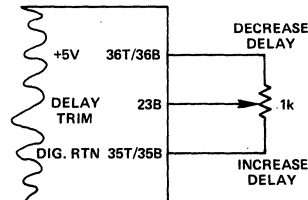

Figure 10. Delay Trim
The DLY OUT signal may be adjusted to vary the A/D converter triggering time by means of the external circuitry shown in Figure 10. An open DLY TRIM terminal (Pin 23B) results in a nominal delay time of 3.0 μ s. A grounded DLY TRIM terminal (for highest-accuracy) results in 20 μ s delay time nominal.
- (1) **NORMAL** (input channel remains selected during its A/D conversion). Connect Pin 23T (DLY OUT) to Pin 27T (TRIG).
- (2) **OVERLAP** (next channel is selected during A/D conversion). Connect Pin 27B (EOC) to TTL compatible inverter input. Connect inverter output to Pin 24T (STROBE). Connect Pin 23T (DLY OUT) to Pin 27T (TRIG). Adjust the delay to at least $4\mu\text{s}$ greater than EOC, $20\mu\text{s}$ max (see Figure 10). The signal on Pin 26T (TRIG) serves as RUN/STOP control.
- (3) **REPETITIVE SINGLE CHANNEL.** After selecting the input channel to be repetitively sampled (see MUX ADDRESS MODE, above), set Pin 27T (TRIG) to Logic "0". Connect Pin 26T (TRIG) to a triggering source. Conversion process is initiated by positive edge of TRIG command.